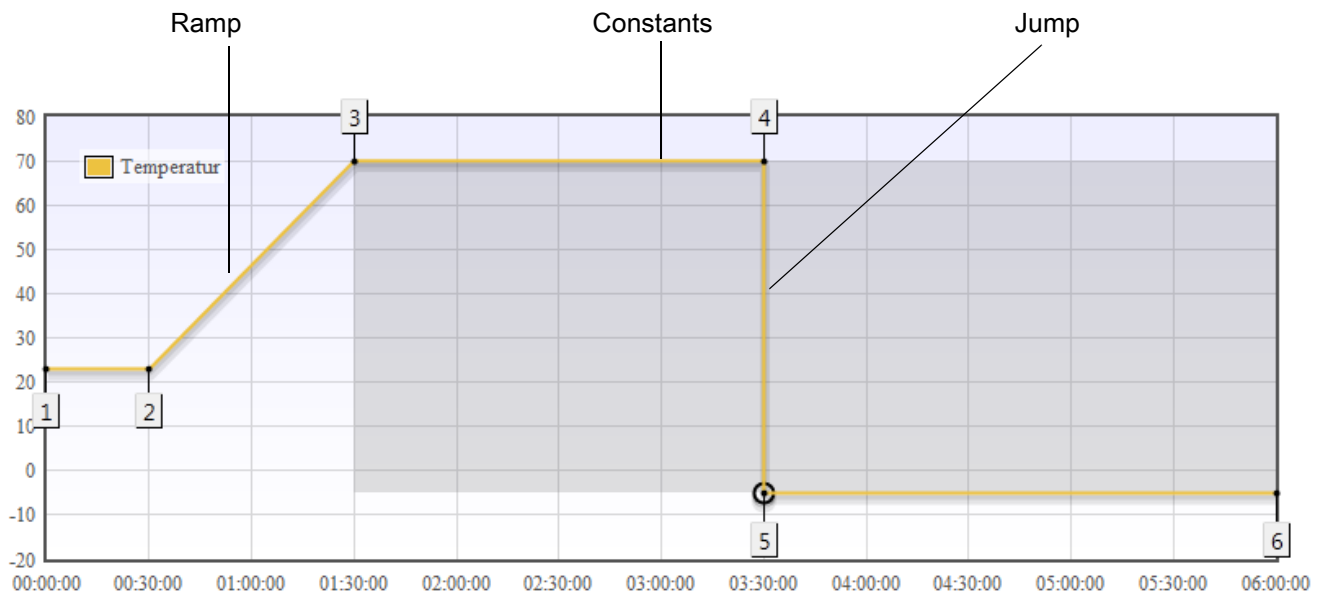

Fig. 6-1 Example of a program
If you want to program a ramp, such as between steps 2 and 3 in → *Fig. 6-1 »Example of a program«* (page 74), proceed as follows:
- ▶ Program another step. In doing so, copy the nominal temperature value from the previous step, but this time define the duration required for the constant, cf. steps 3 and 4, as well as steps 5 and 6 in → *Fig. 6-1 »Example of a program«* (page 74).
If you want to program a jump, such as between steps 4 and 5 in → *Fig. 6-1 »Example of a program«* (page 74), proceed as follows: